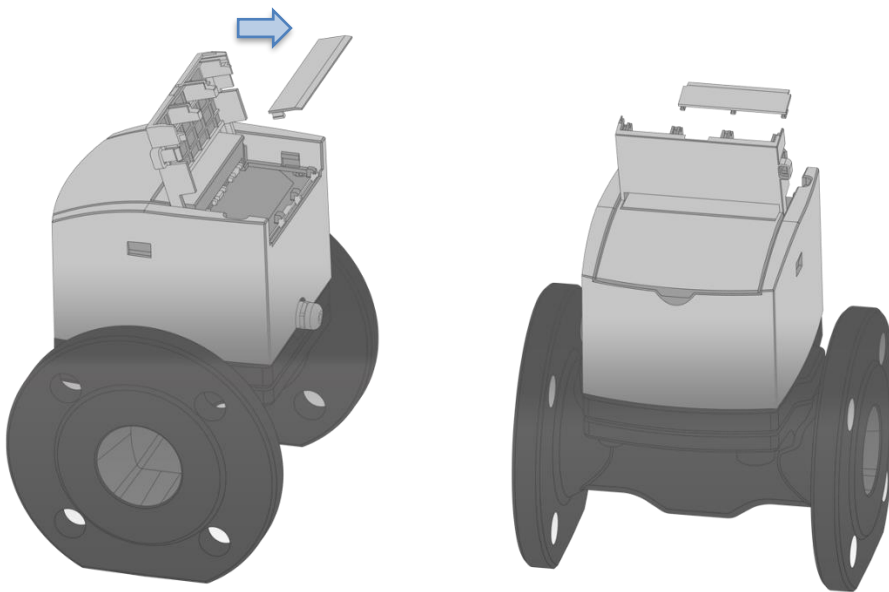

Figure 27: Exchanging protective cover in order to add a new module
Step 2: Exchange protective cover on the module lid, see Figure 27.
If additional NFC modules shall be added to the meter, the protective cover on the module lid needs to be exchanged. Remove the cover from the opened module lid by pulling it outward as shown in Figure 27. Separate module covers for one or two slots are available. If one module shall be placed on the meter, the two remaining slots need to be covered. If two modules are placed on the meter, only one remaining slot needs to be covered. Connect the suitable protective cover to the module lid such that the NFC slots on which a module will be placed remain uncovered. The cover will click in place when pushed onto the module lid.